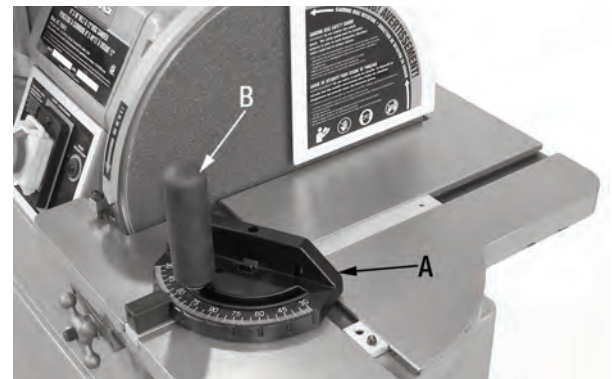

Figure 10
The miter gauge (A) Fig.10 can be installed in both T-slots of the sanding belt table and the sanding disc table as shown. It should be used as often as possible to provide workpiece support during sanding operations. To adjust miter gauge:
1. Loosen lock handle (B) Fig.10.
2. Rotate the miter gauge body (A) to the desired angle and retighten lock handle.